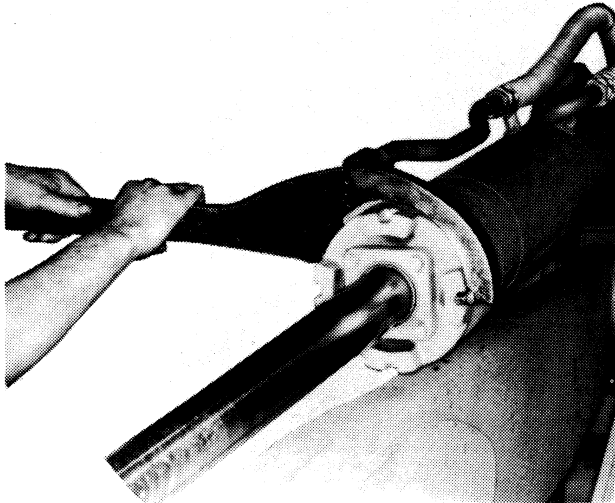

FIG. 7-1 LOOSENING CYLINDER T-76501
7.1.2 With spanner wrench, loosen cylinder head assembly unit, similar to Fig. 7-1, whether it is a complete or partial tear down. Block up or brace cylinder to keep from damaging the cylinder or pinching hoses when pulling pin on rod end. After rod end is loose, finish unscrewing cylinder head assembly, Fig. 7-2 (12).